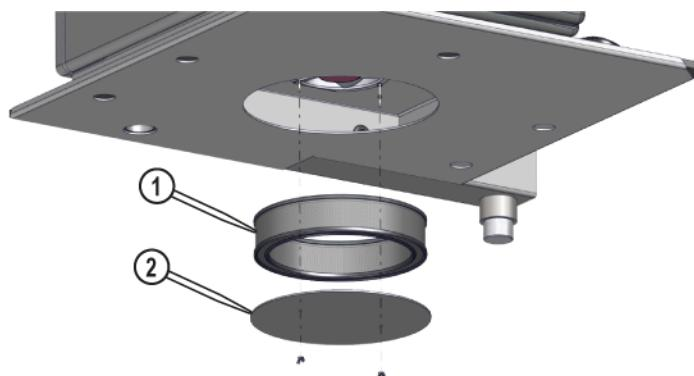

Figure 108
2. Remove and discard the **cabinet filter** [1] (Figure 108).
3. Install a new **cabinet filter** (Figure 108).
4. Replace the **filter cover** [2] (Figure 108).